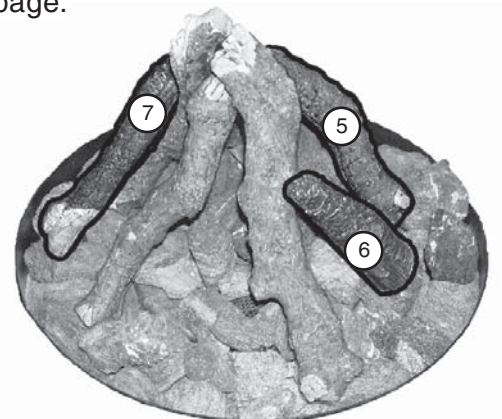

Fig. 19-5
2. Once you have a stable set of logs to use as a "teepee" frame, place the other logs similarly as desired (see Fig. 19-5).